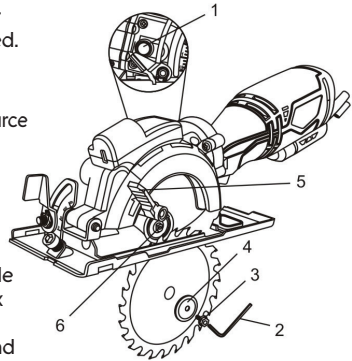

Fig. 1
1. Press inward on the shaft locking button (1) (Fig. 1).
2. Insert the 5mm hex key (2) into the blade screw (3). While pressing inward on the shaft locking button, rotate the hex key clockwise until the shaft locking button engages with the blade shaft. Continue turning the hex key clockwise and remove the blade screw and the outer blade flange (4).
3. Rotate the blade guard lever (5) counterclockwise as far as it will go.
4. If there is already a blade installed on the saw, lift the blade off the spindle (6) and slide it out through the slot in the sole plate.